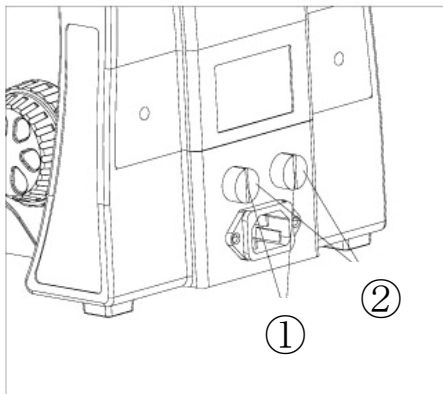

Fig. 14
Turn the main switch to "0" (OFF) before replacing a fuse. Unplug the power cord from the microscope. Screw off the fuse ① or ② from the fuse base with a Phillip's head type screwdriver. Install a new fuse and screw it on the fuse base (see Fig. 14).